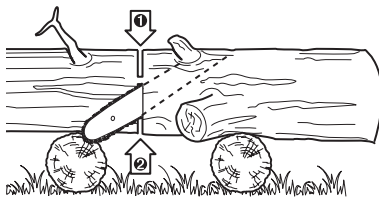

Fig. 34
- When the log is supported on both ends (Fig. 34), cut 1/3 the diameter from the top (overbuck). Then make the finished cut by underbucking the lower 2/3 to meet the first cut.